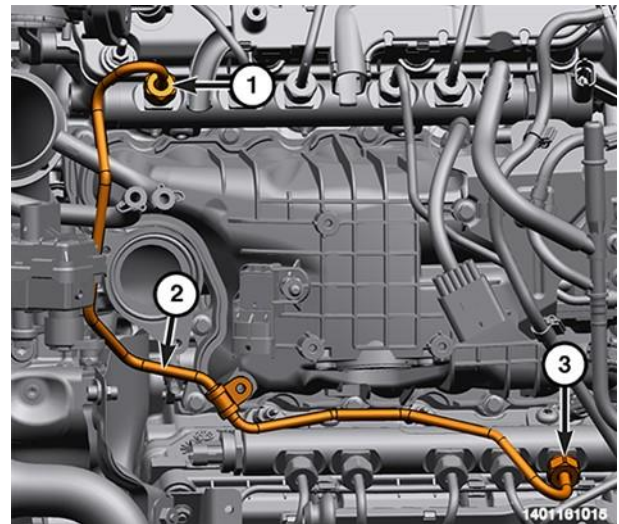

Figure 121 – Crossover Tube Bolt
- 53. Unscrew the union nuts (1 and 3) and remove the fuel crossover tube (2) and discard (Figure 121).